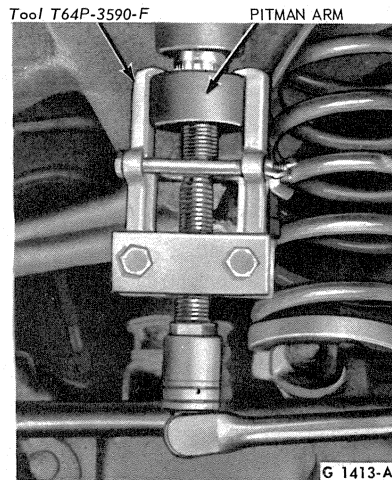

FIG. 5—Removing Pitman Arm
2. Remove the Pitman arm attaching nut and washer from the sector shaft and remove the Pitman arm with Tool T64P-3590-F (Fig. 5).